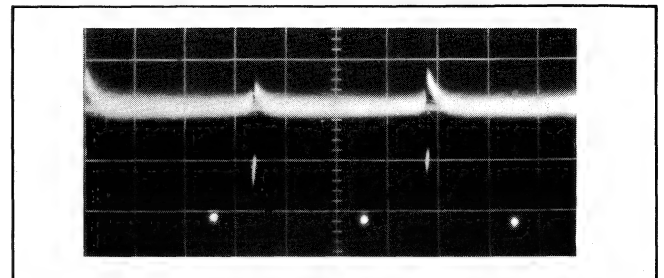

Fig. 9
2. Adjust the dark shading control (V. Para.), BR601-3 and the dark shading control (V. Saw.), BR601-4 so that the signal waveform is flattest during the vertical period as shown in Fig. 9.